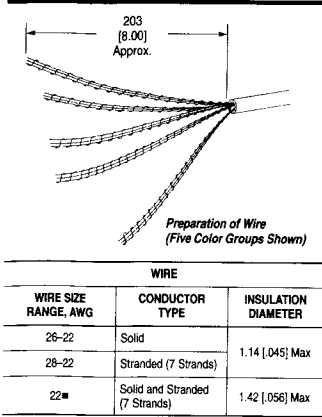

Figure 2
4. WIRE PREPARATION (Figure 2)